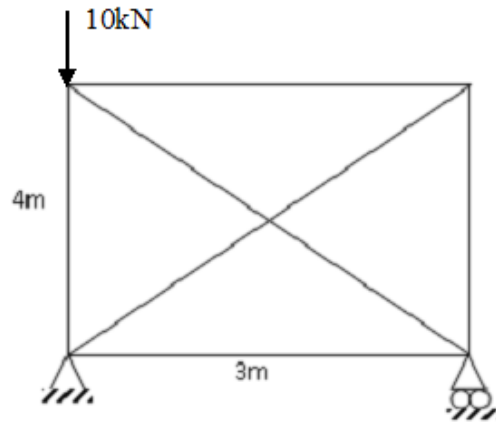

Figure 2:
2. a) How would you explain the concept of equivalent joint load and its significance in structural analysis. (3)
b) Analyse the Truss shown in Figure 2 using Direct stiffness method. (7)
3. a) A cantilever of length L and uniform flexural rigidity EI supports a uniformly distributed load of intensity w kN/m over its entire span length. Evaluate the maximum slope and deflection at the free end using Newmark's method. (5)